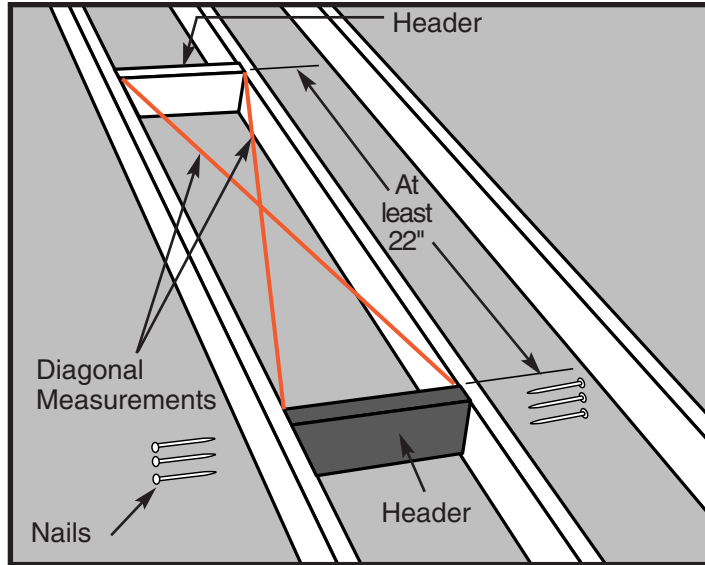

Figure 13 How to check for square
- STEP 5.** Position the second header at least 22" from the first one and repeat Step 4 (See Figure 13).
- STEP 6.** The frame for the rough opening requires four sides. The headers make up two of those sides. If your ceiling joists are spaced so that they make up the other two sides of the rough opening, check the opening for squareness by measuring across the diagonals. The measurements should be within 1/8" to be considered square (See Figure 13).